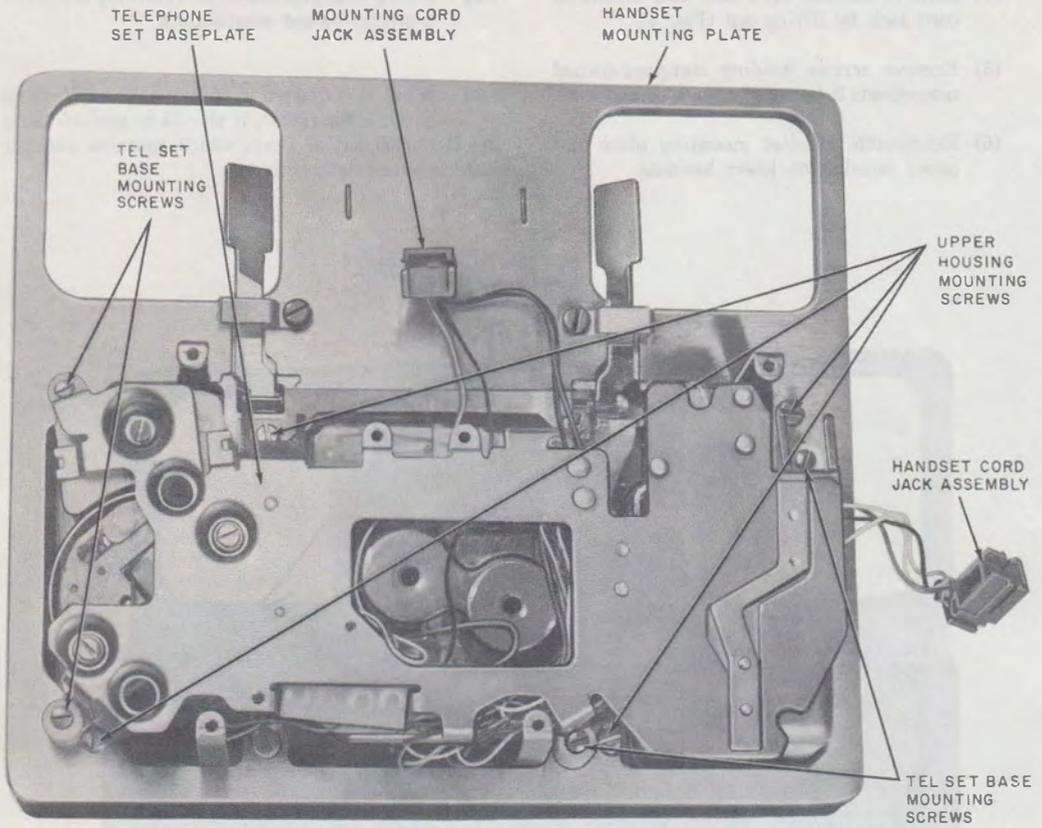

Fig. 5—2930A-Type (MD) Telephone Set with Lower Housing Removed
(3) Remove bottom plate and lower housing.
(4) Remove handset cord jack and mounting cord jack from brackets by lifting off (Fig. 5).
(5) Remove four upper housing mounting screws (Fig. 5) which secure upper housing and remove upper housing.
(6) Turn handset mounting plate and telephone set base over and remove hair pin clip and connecting pin from switchhook linkage.
(7) Remove four telephone set base mounting screws (Fig. 5) and remove base.
(8) Reassemble upper housing to handset mounting plate (Fig. 5).